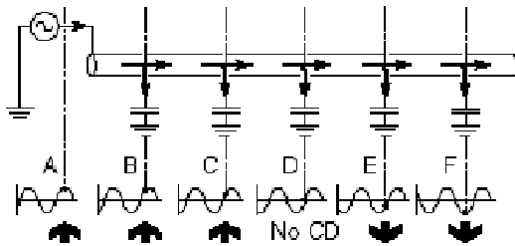

Figure 10.2: CD reset
Figure 10.2 illustrates a buried line with significant capacitance to ground. It illustrates the gradual phase shift that occurs along the line. The diagram shows a reference point on each waveform. At first, the reference point occurs right on the Peak of a positive half cycle (A). It gradually moves towards the zero crossing point (D) and ends up on the Peak of a negative half cycle (F). The direction has shifted from forwards to backwards. At the intermediate point (D) the current flow cannot be determined. At this point the CD arrows on the RD8100 locator will flash on and off. In the example shown in the illustration, by returning to (C) which is the last point at which a CD reading was achieved, and performing a CD reset, the response at (C) will be equivalent to that of (A).